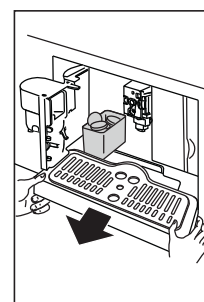

Fig. 24
- Remove the drip tray and waste coffee container (Fig. 24).